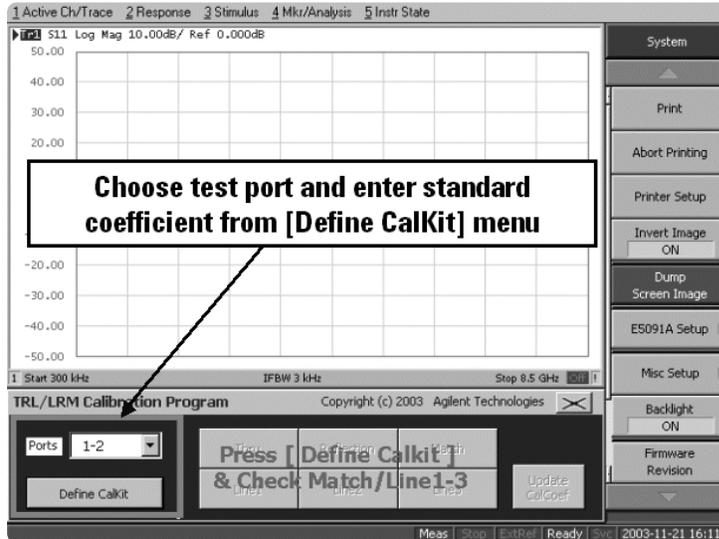
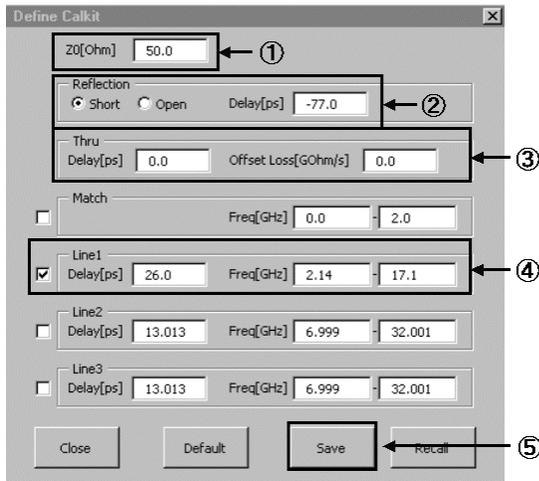

Figure 2. Define CalKit menu
Figure 3. Standard coefficient input screen
Launch the TRL/LRM calibration software and choose the test port for measurement (Figure 2). Then push the **[Define CalKit]** button to launch the standard coefficient input screen, which is shown in Figure 3. The each standard coefficient can be easily defined into the ENA through this menu. Although this software also supports both the LRM and TRM calibrations, in this application note we explain the TRL calibration as an example.
The standard coefficient defining procedure is explained based on Figure 3.
- ❶ **Define the system impedance Z0:** Z0 is defined as 50.0 Ω .
- ❷ **Define the Reflection:** The TRL-3004B uses a Short as the Reflection standard, so the Short is chosen and the Delay of Short is defined as -77 psec.
- ❸ **Define the Thru:** The Delay of the Thru is defined as 0 psec, and the Offset Loss is defined as 0 GOhm/sec.
- ❹ **Define the Line:** The TRL calibration uses multiple lines because the usable bandwidth of a single Thru/Line pair is limited by the TRL calibration 1:8 (frequency span:start frequency) guideline. The phase shift between the Thru and the Line must be between 20 deg and 160 deg. The TRL/LRM calibration software supports 3 Line standards, and this example performs TRL error correction by using one of these lines. In the case of Figure 3, Line 1 is chosen and the Delay is set to 26.0 psec. Also, the test frequency range is set from 2.14 GHz to 17.1 GHz.
- ❺ **Save the standard coefficient:** After each standard coefficient is defined, each standard should then be saved in the ENA with the [Save] button of TRL/LRM calibration software.